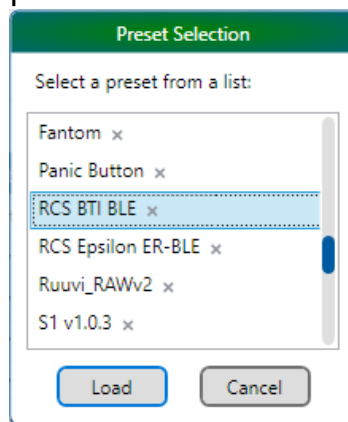

Figure K.6
2. Select the saved template and click the “Load” button (Fig. K.6):